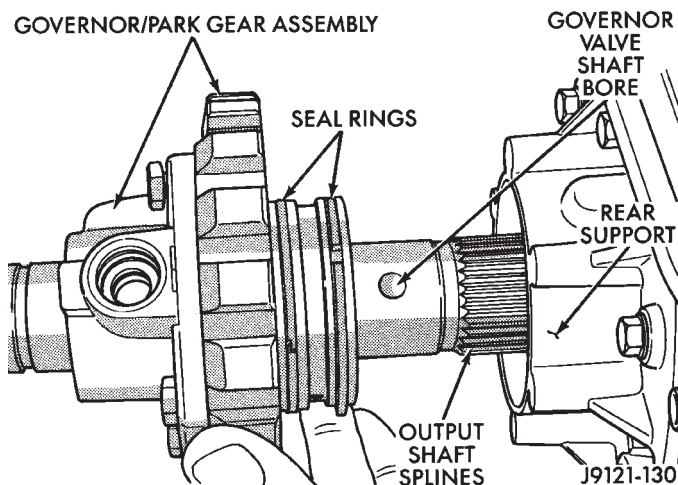

Fig. 20 Removing/Installing Governor Body And Park Gear
(31) Mark position of governor body on park gear with center punch or scribe.
(32) Remove governor body and park gear as assembly (Fig. 20). Work park gear out of rear support and slide assembly off output shaft.